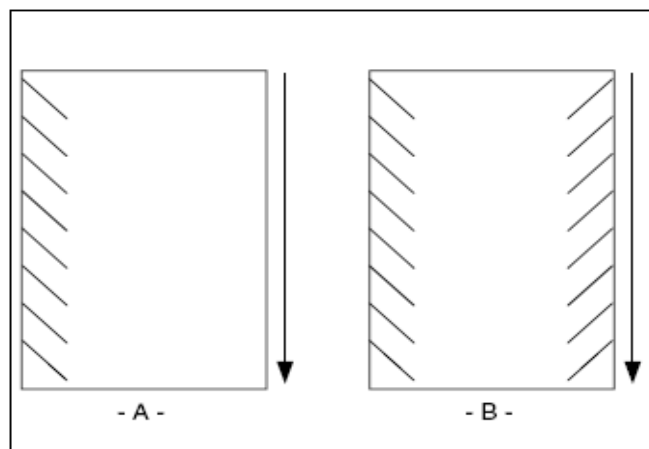

Fig. 45
5. Angled waves in the output (Figure 45 A & B).
- Check for even paper tension (Figure 45 A only)